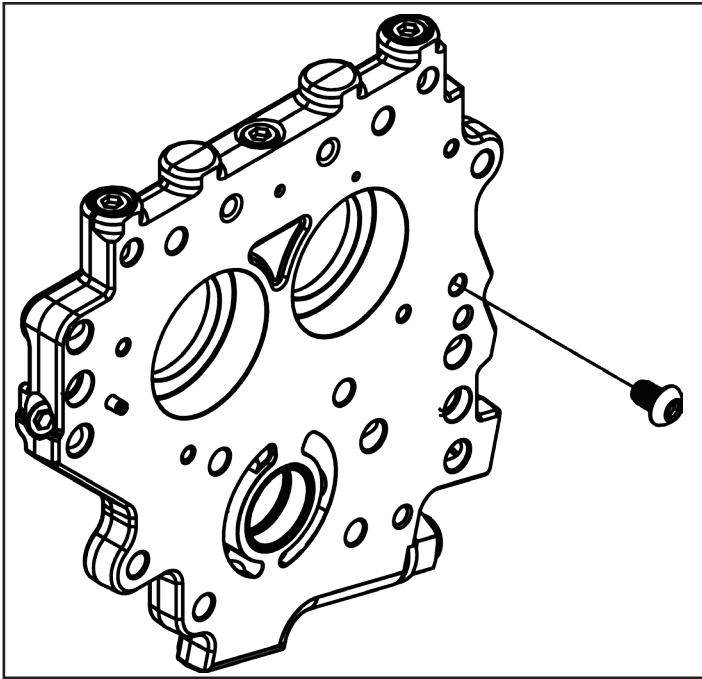

Figure 4
- Some early 1999 model engines do not have a chain oiler boss. See **Pictures 12 and 13**. If your engine does not have this boss, screw #500-0346 must be installed to block the oil hole in the back side of the cam plate. Install with red thread locker and tighten to 70 in-lb. See **Figure 4** on next page.